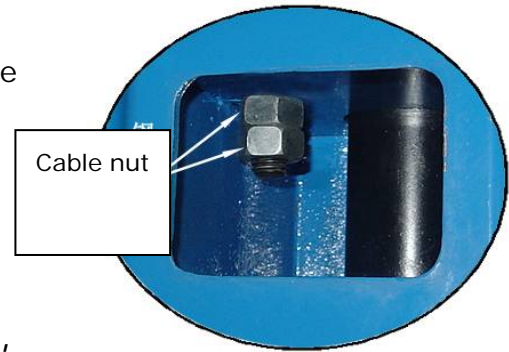

Fig. 40
1. Adjust synchronous cable (See Fig. 40)